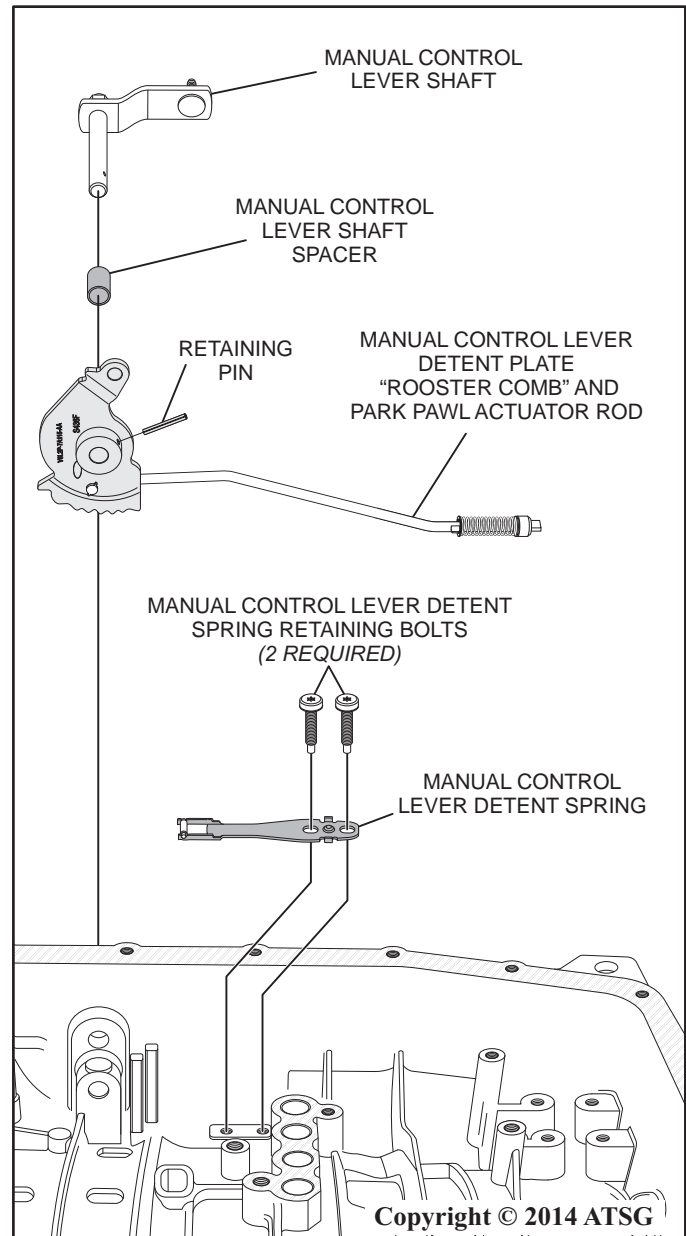

Figure 43
17. Using a drift pin punch and small hammer, carefully remove the manual control lever shaft retaining pin then remove the manual control lever shaft and the manual control lever spacer as shown in Figure 43.
18. Remove the manual control lever detent plate "rooster comb" and the park pawl actuator rod as an assembly as shown in Figure 43.
19. Remove the manual control lever detent spring retaining bolts and the manual control lever detent spring as shown in Figure 43.